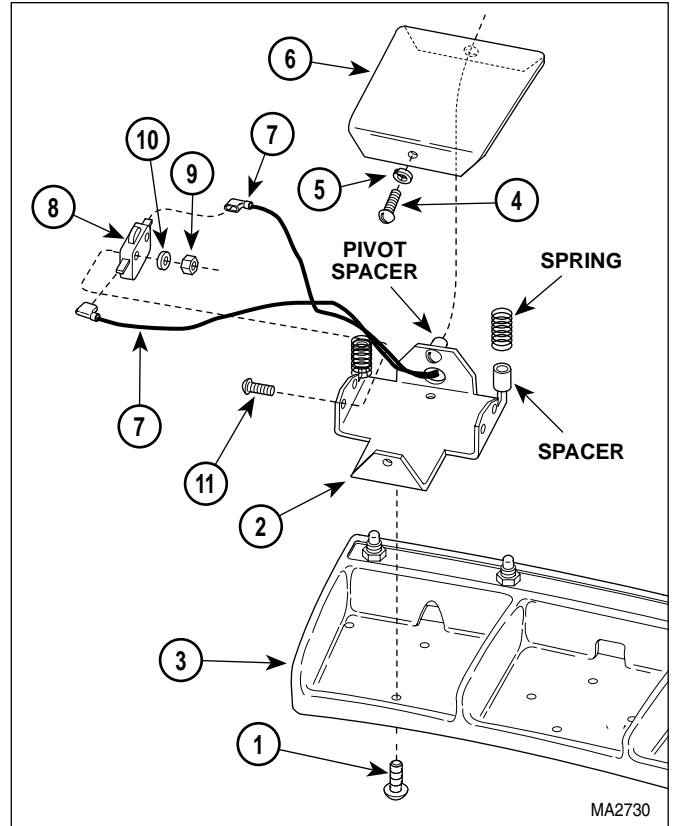

Figure 4-27. Typical Foot Pedal Foot Switch Removal / Installation
- (1) Unplug coil cord of foot control from table.
- (2) Remove two screws (1, Figure 4-27) and partially separate foot switch bracket (2) from foot control casting (3).
- (3) Remove screw (4), spacer (5), and pedal (6) from foot switch bracket (2).
- (4) Tag and disconnect two wires (7) from terminals of foot switch (8).
- (5) Remove two nuts (9), washers (10), screws (11), and foot switch (8) from foot switch bracket (2).